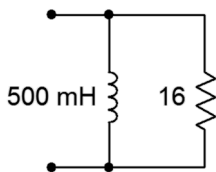

Figure 3.2
2. Determine the effective impedance of the network shown in Figure 3.2 at 100 Hz.
8. For the network shown in Figure 3.2, determine the frequency below which the impedance is mostly inductive.
41. Add one or more components in parallel with the circuit of Figure 3.2 such that the resulting impedance at 20 Hz is $10\ \Omega$ with a phase angle of at least $+30^\circ$.